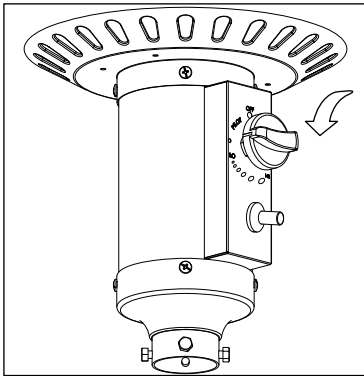

Figure 3
- a. Push in control knob and turn counterclockwise to "PILOT" or until control knob stops (Figure 3).